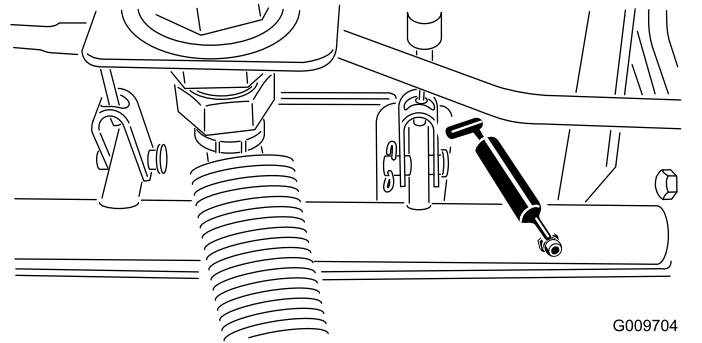

Figure 40
- Brake-shaft pivot bearings (5) as shown in Figure 40